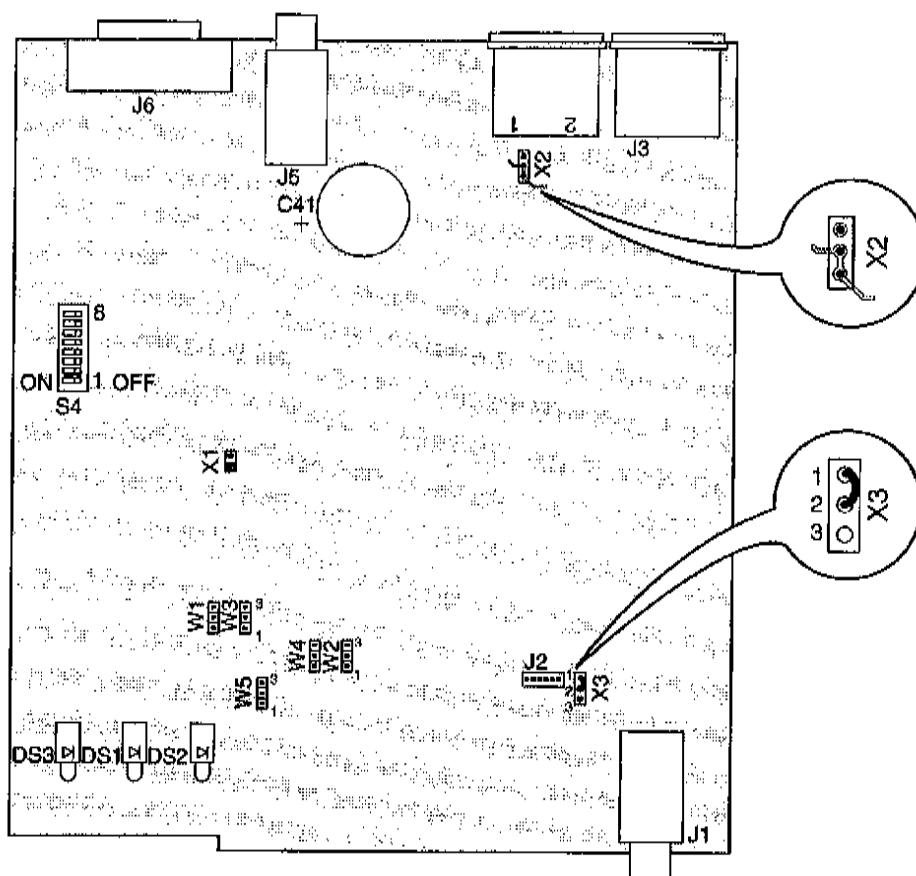

Figure 2-2. Internal Jumpers and Switches
There are several internal switches and jumpers that affect operation. These are described below. To gain access to the switches and jumpers, disconnect all power and line connections. Remove four screws from the back panel and remove the top cover of the case. The jumper and switch locations are shown in Figure 2-2.
3. On the top side of the main circuit board, cut the trace between pins 2 and 3 at X2 as shown in Figure 2-2.
4. On the top side of the main circuit board, add a jumper between pins 2 and 1 at X2 as shown in Figure 2-2.